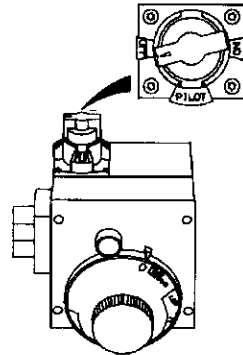
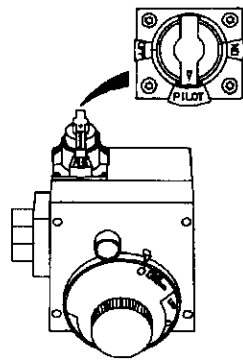

Figure 6
Figure 7
4. Turn gas control knob clockwise (↻) to "OFF" position. Knob cannot be turned from "PILOT" to "OFF" unless knob is depressed slightly. **DO NOT FORCE.** (Figure 6, page 19)
5. Wait five (5) minutes to clear out any gas. If you then smell gas, **STOP!** Follow "B" in the safety information above on this label. If you don't smell gas, go to the next step.
8. If you don't smell gas, turn knob on gas control counter clockwise (↺) to "PILOT" position. (Figure 7, page 19)
9. Push in control knob all the way and hold down. Immediately light the pilot with a match. Continue to hold control knob in for about one (1) minute after the pilot is lit. Release knob and it will pop back up. Pilot should remain lit. If it goes out, repeat steps 3 through 8.
- If the pilot will not stay lit after several tries, depress and turn the gas control knob clockwise (↻) to "OFF" and call your service technician or gas supplier. (Figure 6, page 19)